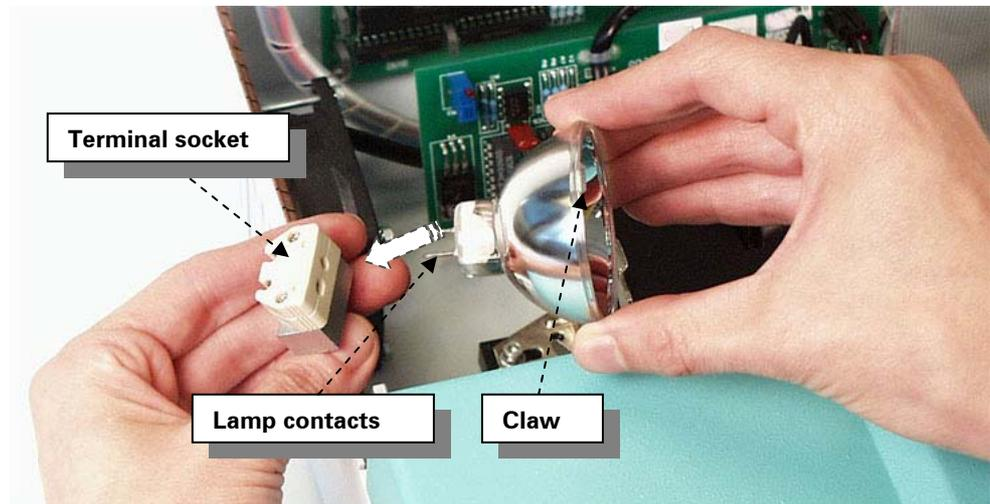
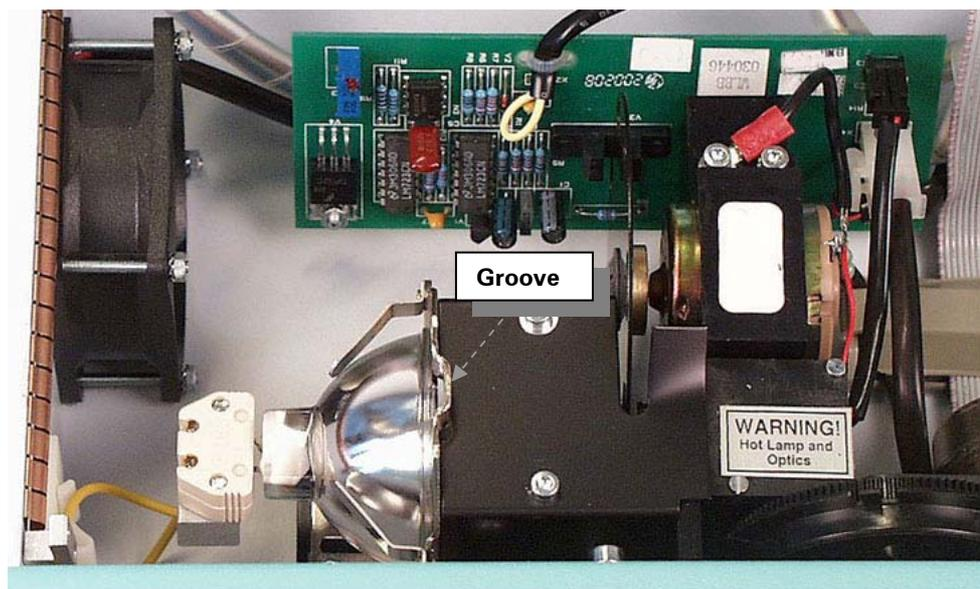

Fig. 5.6 Fitting the lamp contacts
Fig. 5.7 Lamp in its place
3. Hold the terminal socket vertically and the lamp so that the claw is pointing upwards. Fit the lamp contacts to the terminal socket (Fig. 5.6). Press the lamp tightly to fit it properly (Fig. 5.7).
4. Place the lamp in its place so that the claw in the lamp fits in the groove (Fig. 5.7). Push the lamp all the way down.